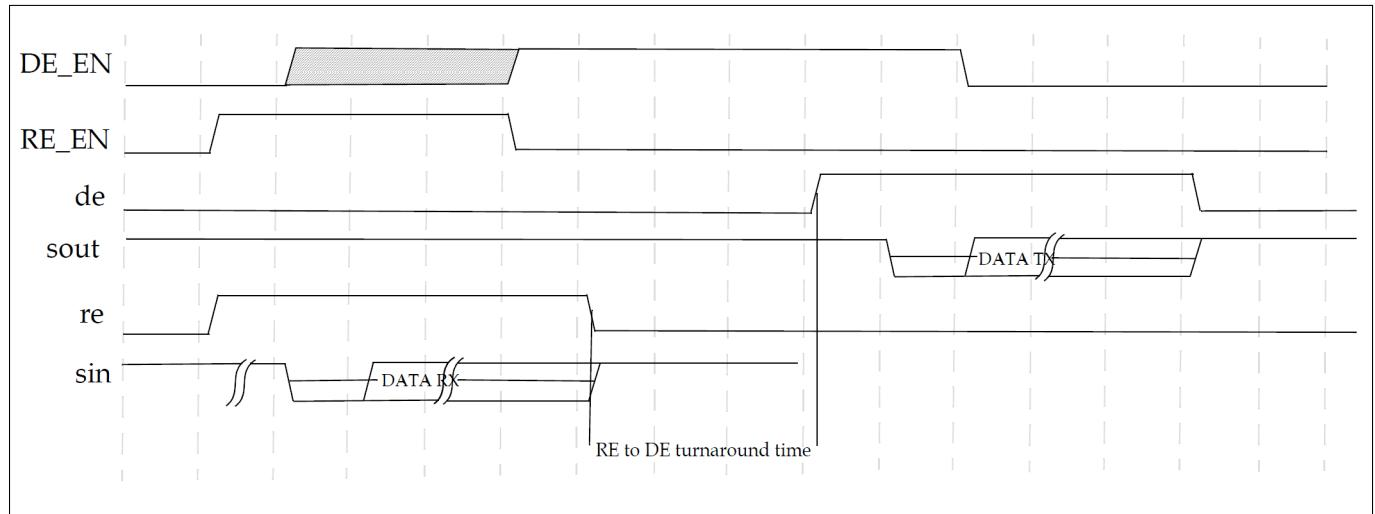
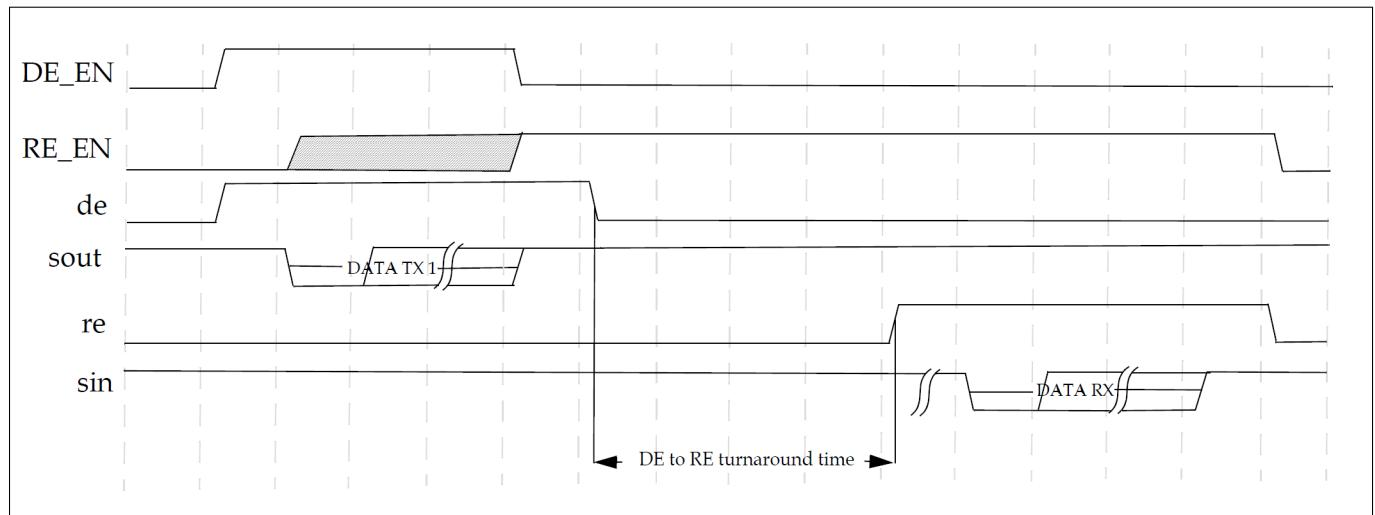

Figure 20.9: RE to DE Turnaround Time
Figure 20.10: DE to RE Turnaround Time
The user must enable either DE or RE but not both at any point of time. As 're' and 'de' signals are mutually exclusive, the user must ensure that both of them are not programmed to be active at any point of time. In this mode, the hardware ensures that a proper turnaround time is maintained while switching from 're' to 'de' or from 'de' to 're' (value of turnaround is obtained from the TAT register, in terms of serial clock cycles) as shown in Figure 20.9 and Figure 20.10.
**20.3.3.2.2.1 RE to DE Turnaround Time** UART inserts the wait state (as programmed in TAT[31:16] times serial clock) before switching to transmit mode from receive mode as shown in the Figure 20.9 (applicable only when TCR[4:3] =1 or 2 (XFER\_MODE).)
**20.3.3.2.3 DE to RE Turnaround Time** UART inserts the wait state (as programmed in TAT[15:0] times serial clock) before switching to receive mode from transmit mode as shown in the Figure 20.10 (applicable only when TCR[4:3] =1 or 2 (XFER\_MODE).)
In this mode, the hardware ensures that a proper turnaround time is maintained while switching from 're' to 'de' or from 'de' to 're' (value of turnaround is obtained from the TAT register, in terms of serial clock cycles) as shown in Figure 20.9 and Figure 20.10.